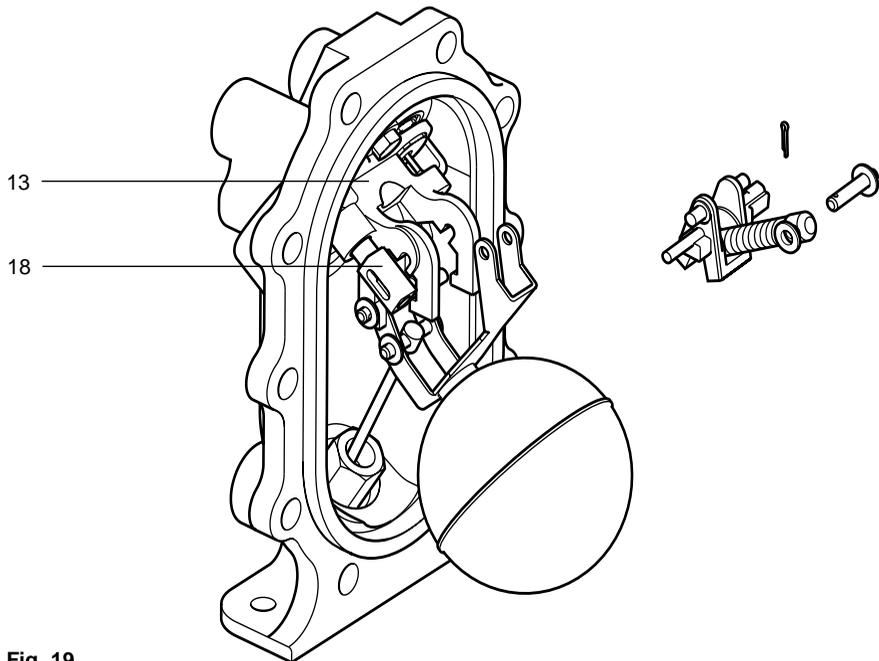

Fig. 19
**Note:** There is no need to remove the spring from the actuator arm, as both these items are supplied fully assembled in the spares kit (See Fig. 19).
10. **Fitting the new spring and actuator arm is the opposite to removal.** Remember to compress the small spring within the exhaust valve (item 18) before refitting to the tanged spigot of the new actuator arm.
11. Ensure the actuator is correctly aligned and located within the slots of the pump bracket (item 13).
13. Always use new split pins and washers when refitting the spring retaining shaft (Y).
16. Carefully reconnect the motive steam supply and the exhaust lines to the connections marked (S) and (E) and the condensate inlet and outlet to the connections marked (IN) and (OUT). The APT10-4.5 is now ready to recommission.